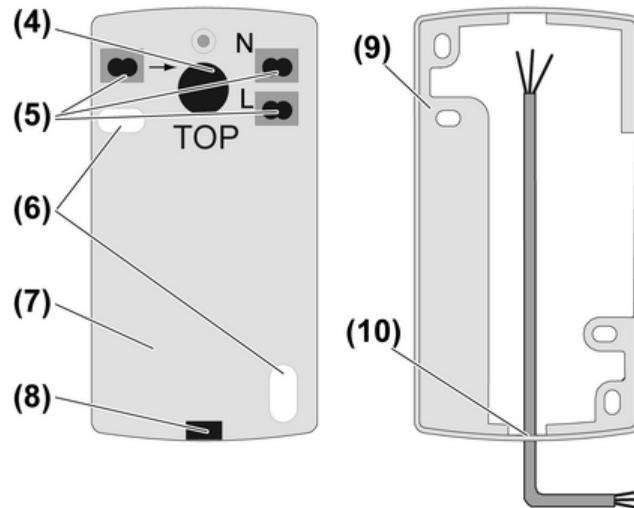

Figure 4: Rear housing panel and installation frame
- Insert the screwless terminals for fixing into the holders (5) of the housing cover (Figure 4).